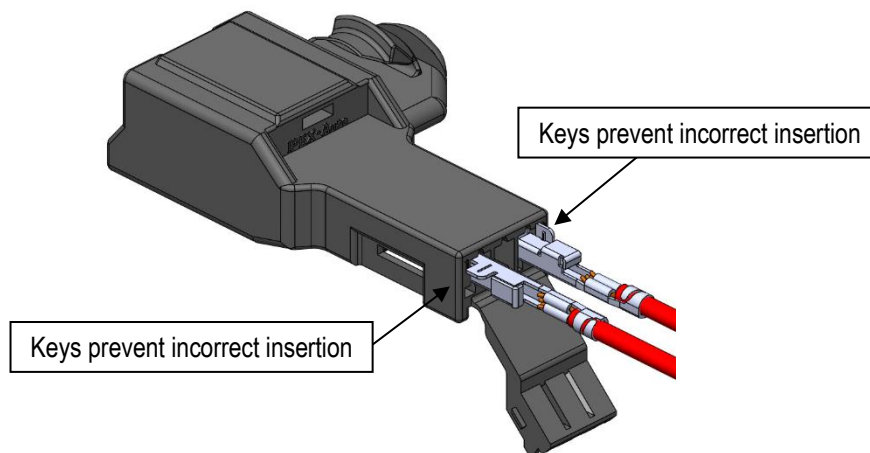

Fig 25. Incorrect terminal insertion
- ⑤ Terminals won't fit into the housing coreholes, if inserted in the wrong orientation (see Fig. 25).
- ① Terminals must be inserted in the orientation instructed. Forcibly inserting terminals in any other orientation may result in damage or deformation. Furthermore, if the terminals are inserted with incorrect orientation, terminal key prevents insertion into coreholes. (see Fig.25)
- ② Once the terminal is inserted, do not apply excessive pulling force to the wire.
① After terminal insertion is complete, close the secondary lock part.